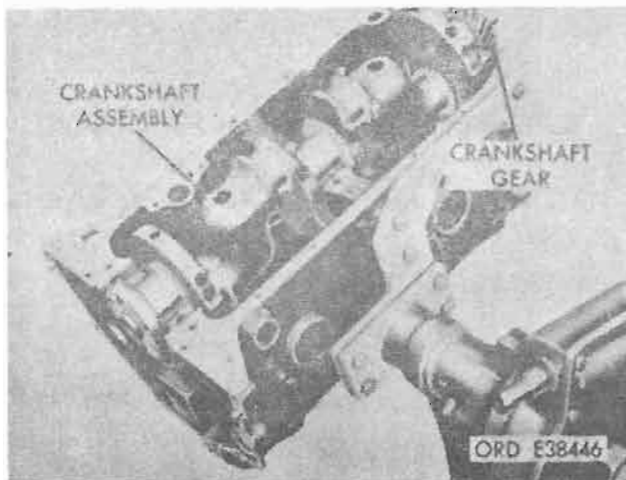

Figure 4-226. Crankshaft assembly.
c. *Install Crankshaft Assembly.* Be sure bearings and crankshaft journals are clean and apply a light coat of engine oil (OE-10) on them. Carefully lower crankshaft in place with the Woodruff key and crankshaft gear installed. Refer to paragraph 4-65 for procedure to install Woodruff key and crankshaft gear on crankshaft. Be careful not to damage bearing surface. Refer to figure 4-226.